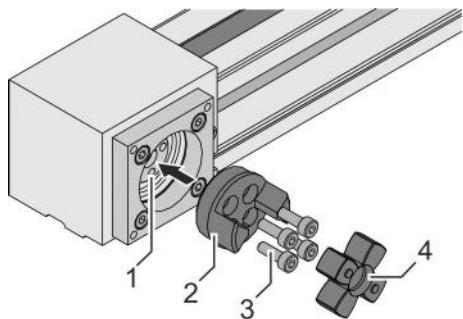

Fig. 25: Assembling screw-in hubs
3. ➤ Place the screw-in hubs (Fig. 25/2) on the timing belt shafts (Fig. 25/1) of both linear units.
4. ➤ Tighten 4 screws each (Fig. 25/3), alternating diagonally:
5. ➤ Insert gear rings (Fig. 25/4) into the screw-in hubs.